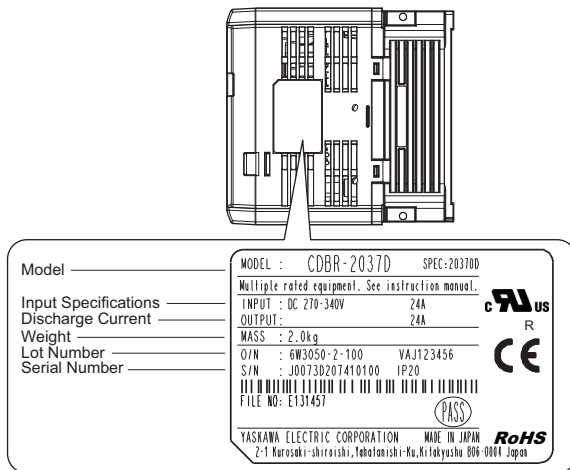

Figure 4 Nameplate Example (CDBR Braking Unit)
- Verify receipt of the correct model by checking the model number printed on the option nameplate. (Refer to Figure 4 on page 12 for more information)